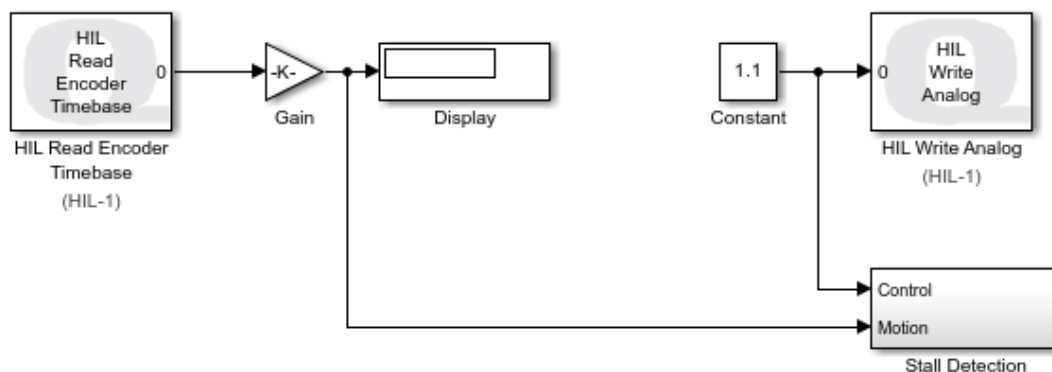
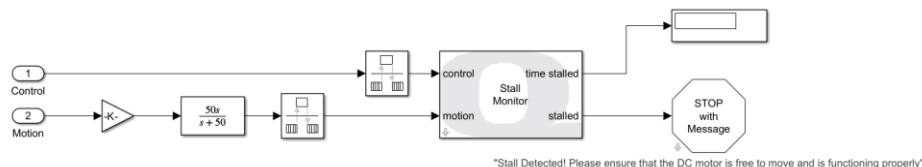

Figure 1. Simulink model used with QUARC to drive motor and read angle on Qube-Servo 3
Figure 4. Stall Detection subsystem
In this lab, we will make a **Simulink** model using **QUARC** blocks to drive the DC motor and then measure its corresponding angle – as shown in Figure 1.
3. Connect the **HIL Read Encoder Timebase** block as shown in figure 1, the HIL Write Analog should be missing.
2. Connect the **Constant** and **HIL Write Analog** blocks together, as shown in Figure 1. **Note:** There is a **Stall Detection** subsystem in Figure 1 and Figure 4. This block will monitor the applied voltage and speed of the DC motor to ensure that it does not stall. If the motor is motionless for more than 20 seconds with an applied voltage of over  $\pm 5$  V, the simulation is halted to prevent the Qube-Servo 3 from overheating and subsequent potential damage to the motor.